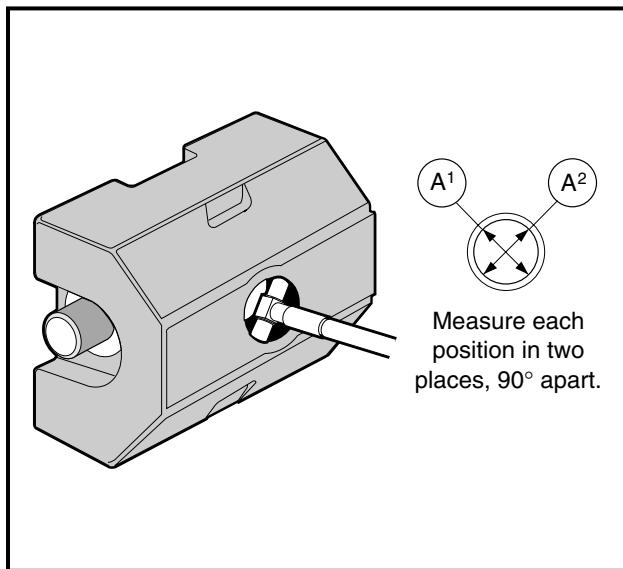

Figure 3-73 Measure I.D. of Counterbalance Weight Bore
2. Use a telescoping gauge and micrometer to measure the inside diameter of the bearing surface (**Figure 3-73, Page 3-35**).